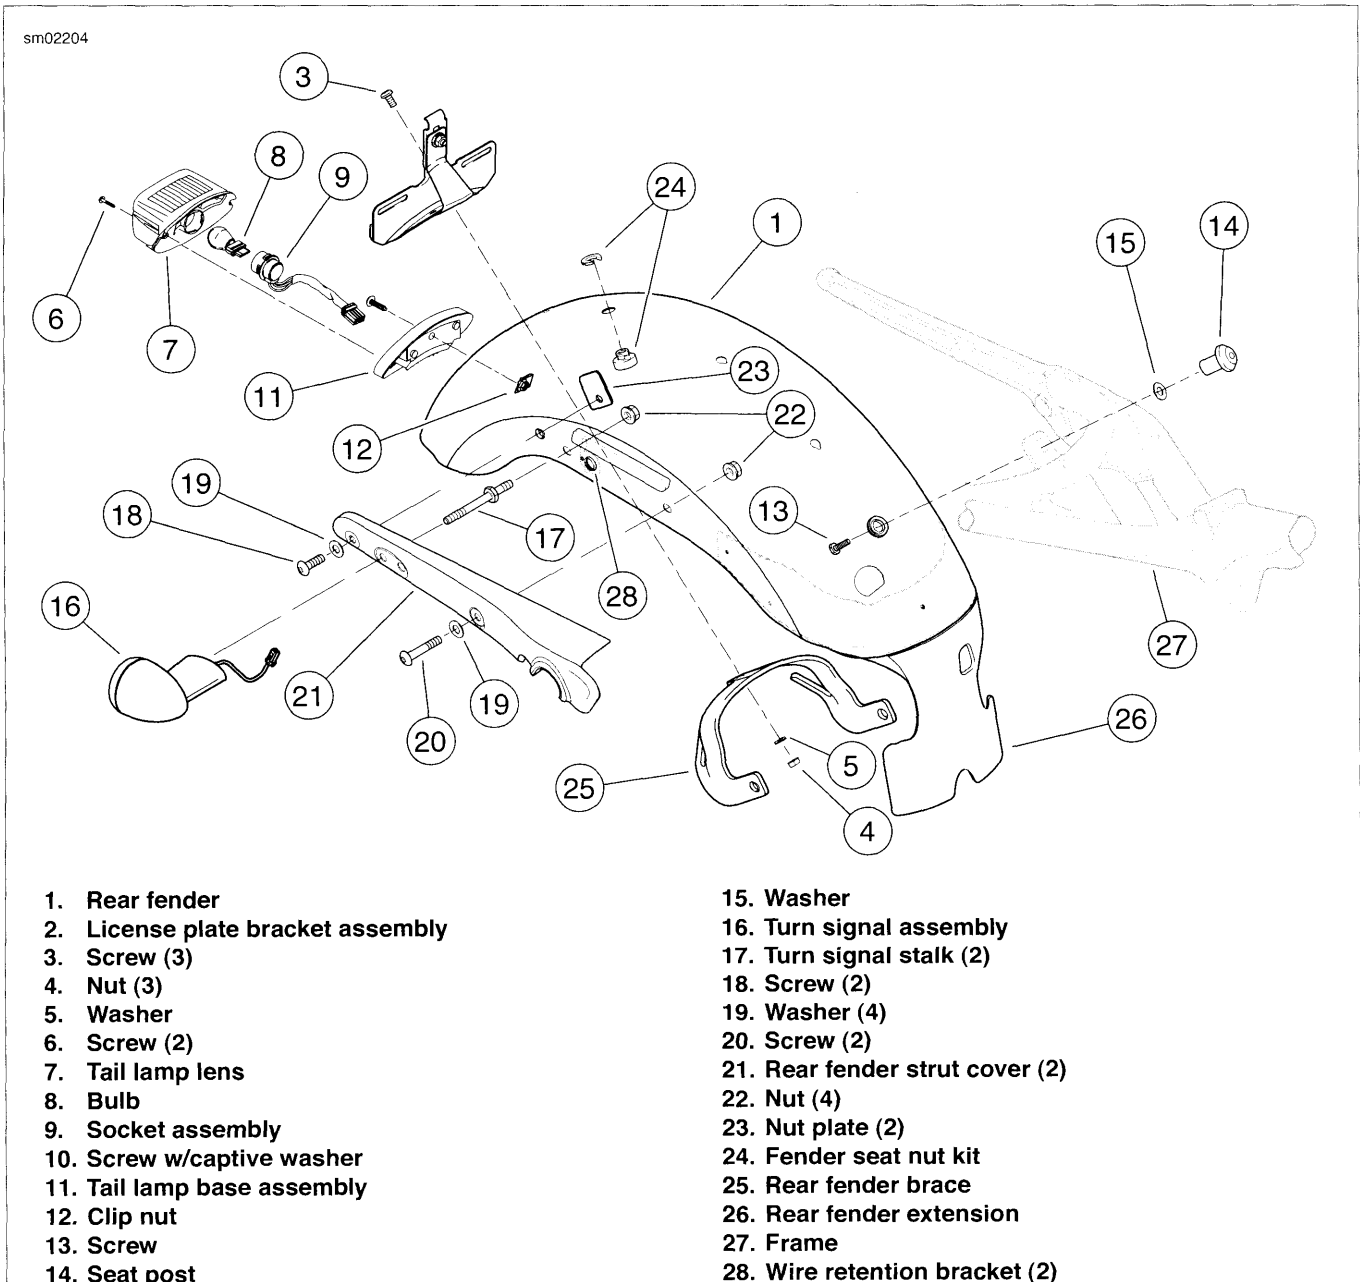
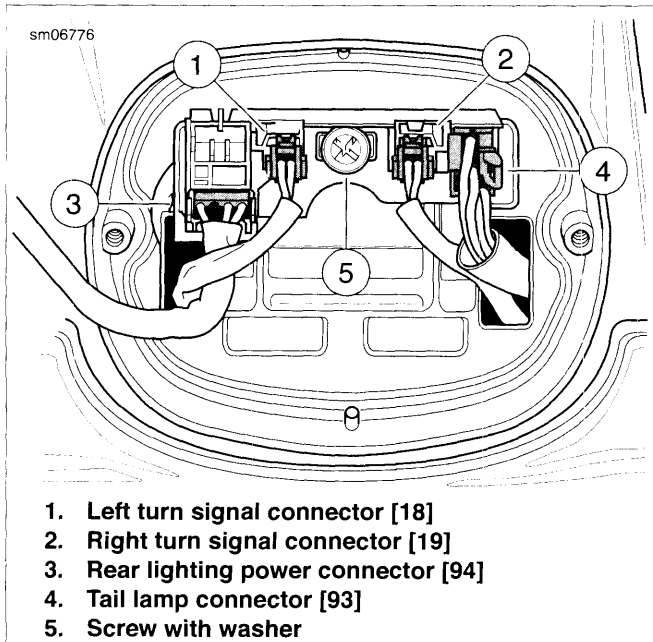

Figure 2-225. Rear Fender Assembly
Figure 2-226. Tail Lamp Housing
3. See Figure 2-225. Remove two screws (6) and tail lamp lens (7) from tail lamp base assembly (11). Twist tail lamp bulb socket (9) 1/4 turn counterclockwise and remove from lens.
- See Figure 2-226. Note location of electrical connectors on tail lamp circuit board. Depress latches on turn signal connectors (1, 2) and tail lamp connector (4). Unplug connectors from rear lighting circuit board.
- Remove forward fender support screw with washer (2) and nut (4), and aft fender support screw with washer (3) and nut plate (5) on both sides.
- Pull turn signal wiring harnesses through holes in tail lamp base and rear fender. Disengage turn signal wiring harnesses from wire retention brackets (6).
- See Figure 2-225. Remove rear fender strut covers (21) with attached turn signal assemblies (16) from rear fender struts.
- Remove screw (13), seat post (14) and flat washer (15) to detach top of rear fender (1) from frame cross member tab.
- See Figure 2-226. Depress latch on rear lighting power connector [94] (3) and unplug connector from rear lighting circuit board.
- Remove screw with washer (5) and lift tail/brake lamp base from fender.
1. See Figure 2-225. Install license plate assembly on **new** rear fender:
- a. Remove three screws (3), three nuts (4) and one washer (5) securing license plate bracket assembly (2) and rear fender brace (25) to old fender (1).
2. Carefully drill out pop rivets securing rear fender extension (26) to old fender with a 1/4-in diameter drill bit. Rivet rear fender extension to **new** fender.
3. Carefully drill out pop rivets securing wire retention brackets (28) to old fender with a 1/4-in diameter drill bit. Rivet brackets to **new** fender.
4. Remove fender seat nut kit (24) from old fender and install on **new** fender.
9. See Figure 2-225. Secure front of fender with screw (13), washer (15) and seat post (14). Finger-tighten screw only, at this time.
11. Remove screws from right side of fender that were temporarily installed in step 8. Install right side rear fender strut cover (21) with attached turn signal assembly to fender strut. Push turn signal wiring harness through appropriate hole in strut and fender. Install nut (22) onto turn signal stalk (17) from inside fender. Finger-tighten only at this time.
12. Secure fender to strut with screw (20), washer (19) and nut (22) in forward mounting hole. Install screw (18), washer (19) and nut plate (23) in aft mounting hole. Finger-tighten screws only at this time.
- a. Tighten screw (13) and seat post (14) to 96-156 **in-lbs** (10.9-17.6 Nm).
15. Install tail lamp base (11) to fender with screw (10) and clip nut (12). Tighten screw to 45-48 **in-lbs** (5.1-5.4 Nm).
16. See Figure 2-226. Push 6-pin Amp connector [94] (3) and left [18] (1) and right [19] (2) turn signal connectors through access holes in tail lamp base and connect as shown.
17. Insert tail lamp connector [93] (4) in tail lamp base socket.
18. See Figure 2-225. Screw tail lamp socket assembly (9) into lens (7). Attach tail lamp lens (7) to base (11) with two screws (6).